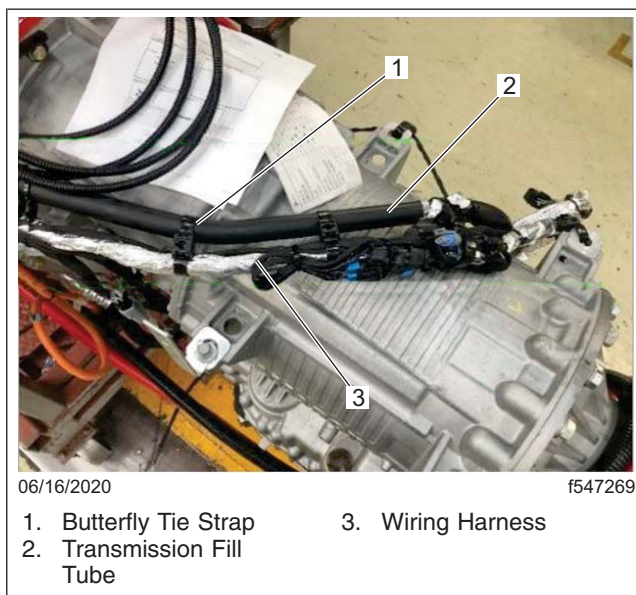

Fig. 9, Securing Fill Tube to the Harness
2. Use the butterfly tie strap TYC DCT110HIR to secure the fill tube to the harness. See Fig. 9.